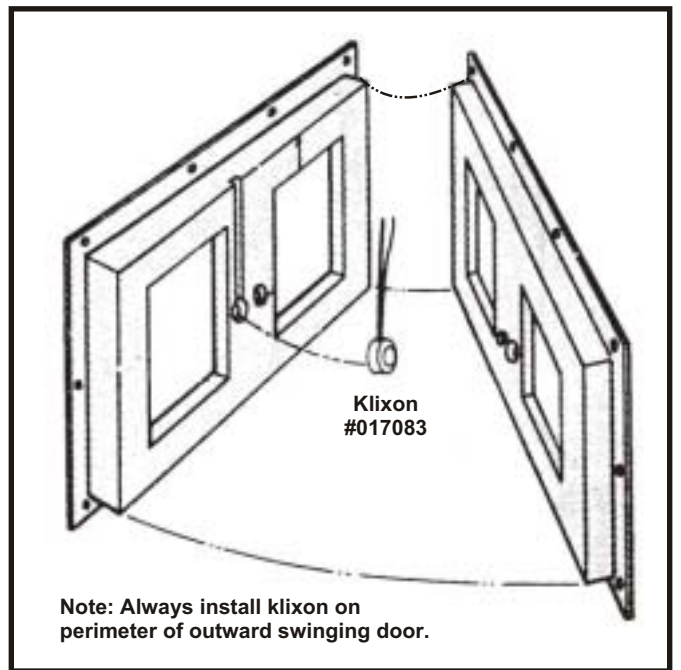

Fig. 7
- D. Disconnect the appropriate wire nuts in the junction box. Remove and replace the defective klixon (#017083). See Fig. 7.